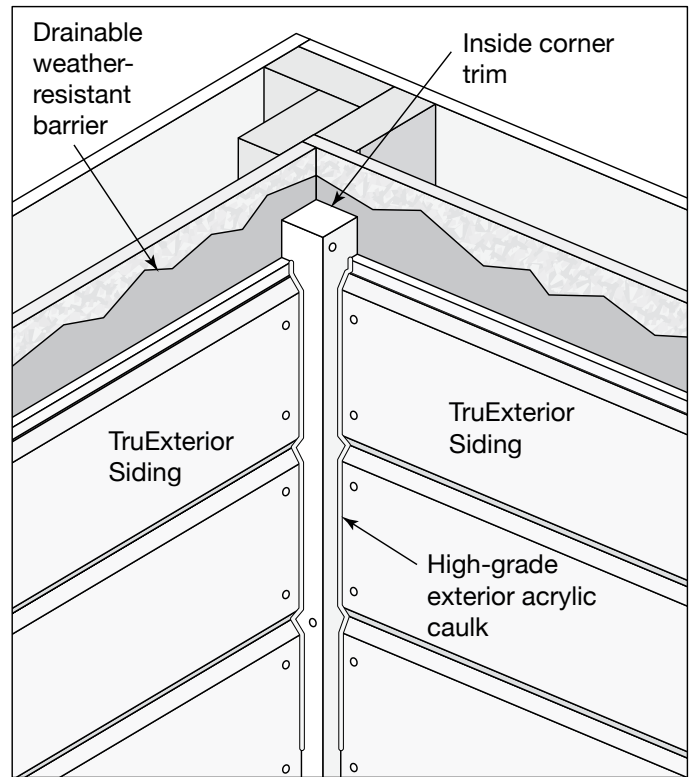

Fig. 9a: Inside corner detail, no gap and with caulk
- When creating inside corners, install 2"x2" trim into the corner with an approved fastener (Fig. 9a).
- Use 1 nail every 16" along the length on alternating sides of the trim, ensuring penetration into the framing (Fig. 9a).
- Butt each course of siding up to the corner trim and secure in place (Fig. 9a).
- Seal the joint between the corner trim and the siding with high-grade, exterior acrylic caulk (Fig. 9a).
While TruExterior Siding does not require priming or sealing of end cuts, a variety of caulks and sealants may be used in conjunction with the product to help prevent water intrusion to the structure (Fig. 9a & 9b).